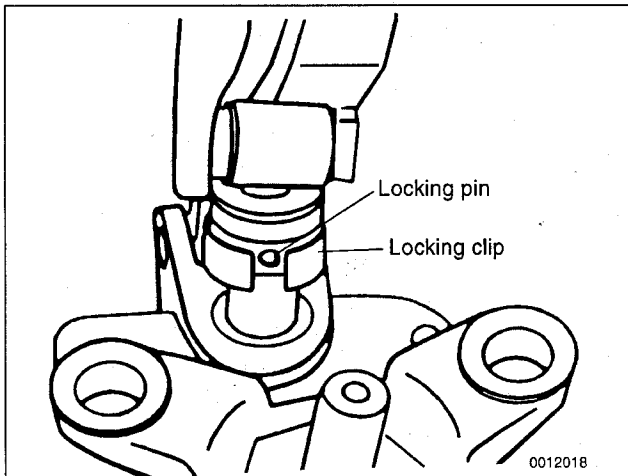

Fig. 2. Disconnect shift linkage from transmission selector shaft by prying back locking clip and pushing locking pin out.
5. Working at rear of selector shaft, disconnect shift linkage from selector shaft. See Fig. 2.